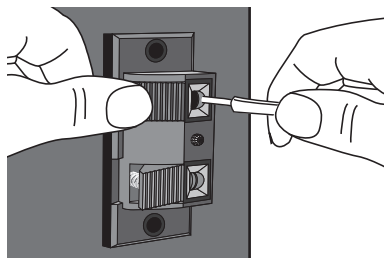

figure 7
3. Insert stripped wire (**figure 7**).
To start your central vacuum, simply insert the hose in the vacuum inlet of your choice. Please ensure that the tab on the hose end is properly lined up with the slot in the inlet opening (**figure 7**). If your hose handle has an integrated on/off switch, simply slide the switch to the "on" position.